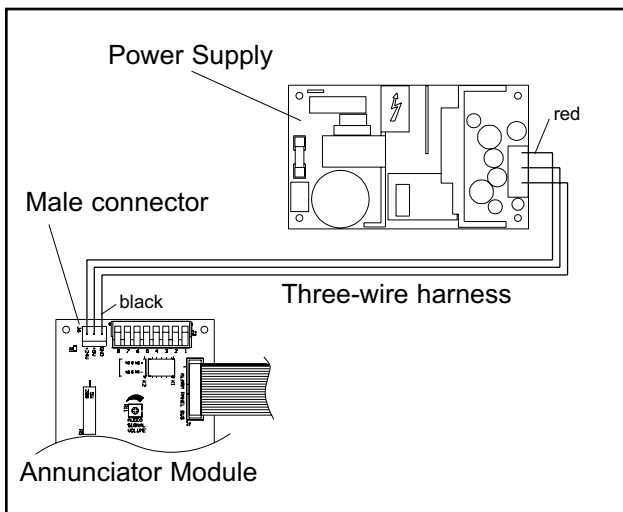

Figure 15: Power Supply Wire Harness
4. The alarm panel's power supply is factory installed with a three-wire harness attached to its right side. Connect loose end of three wire harness to male connector on annunciator module circuit board as shown in Figure 15. The harness connector is keyed to prevent incorrect orientation, however, use care to ensure correct pin alignment.